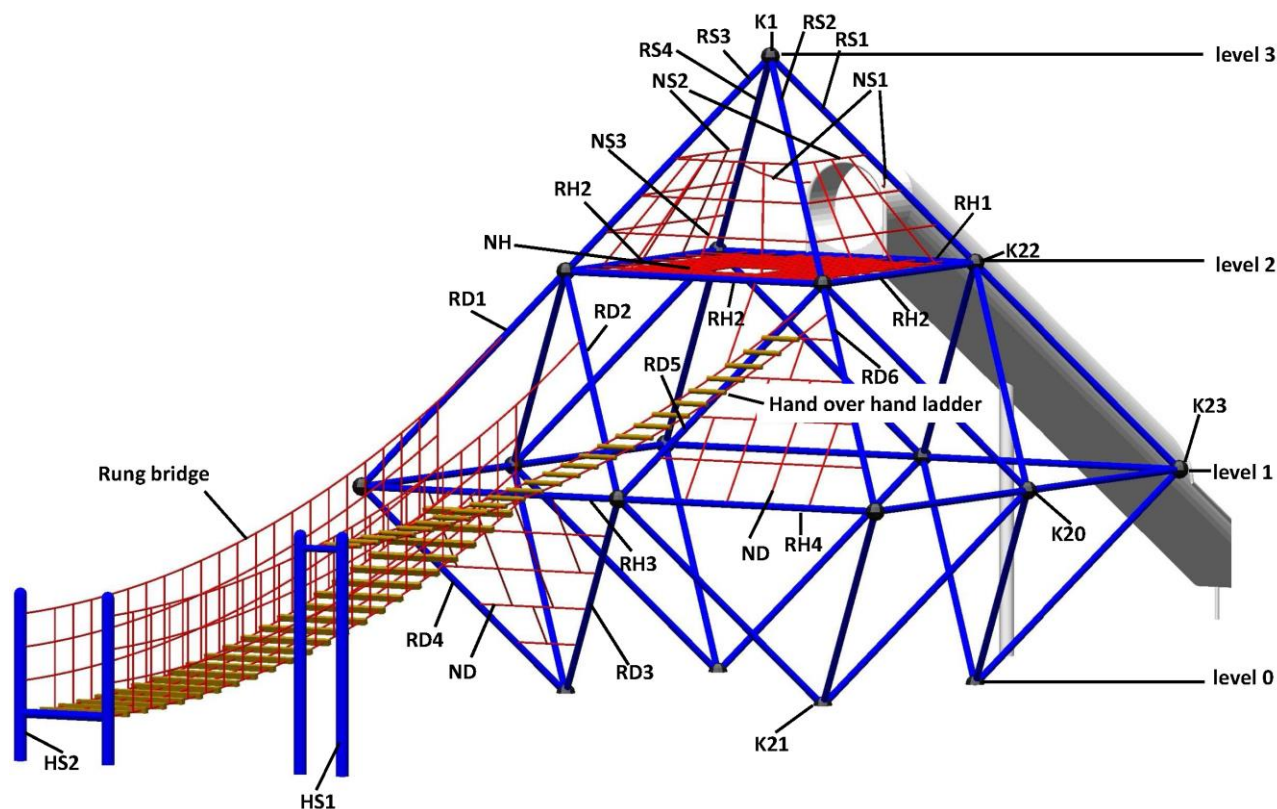
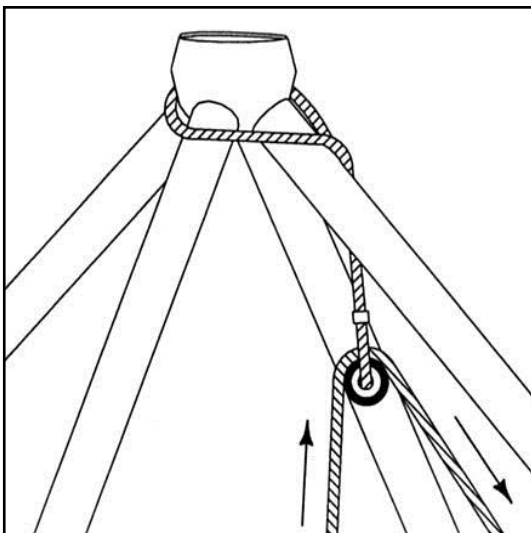
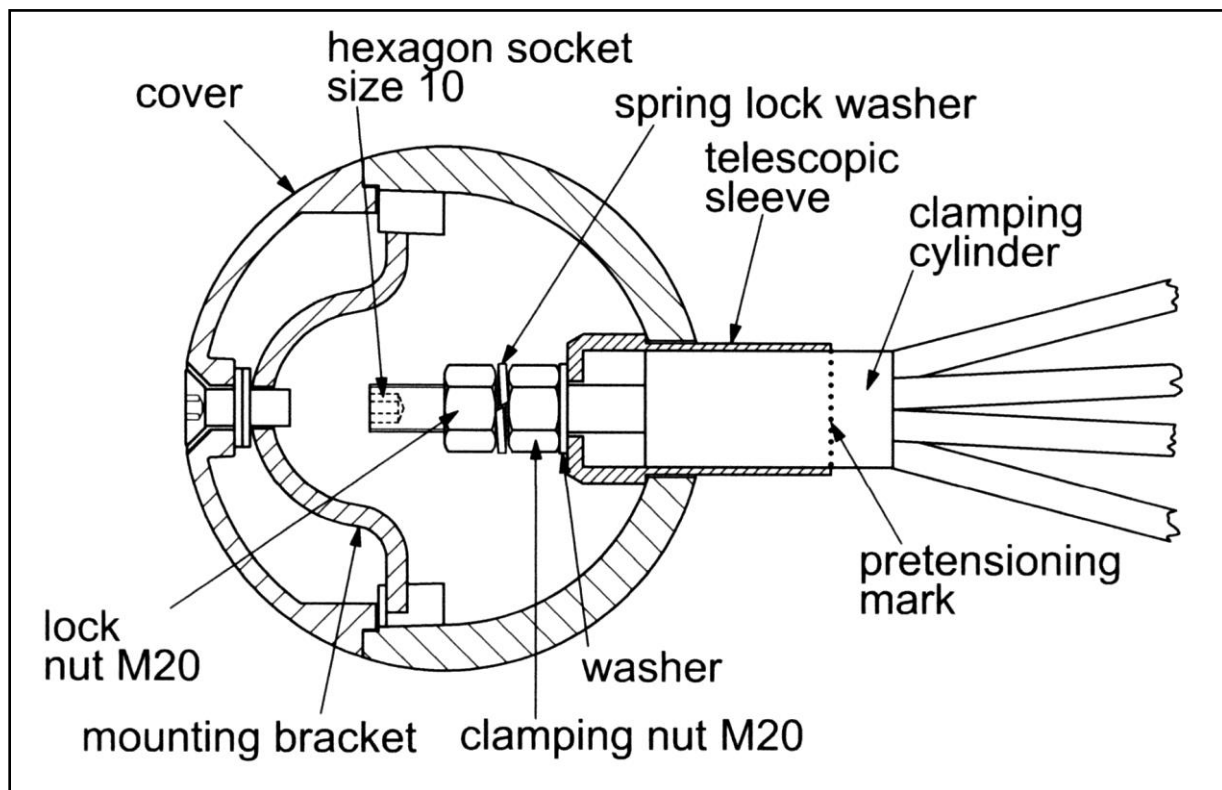

Figure 3
Figure 4
Figure 6
First of all, the foundation framework is to be taken down and the parts are to be used again. The structural arrangement of the pipes and connection joints may be seen in **figure 4**. **The code number which is stamped onto the hollow balls (K20, K21, K22 and K23) is always facing upwards.** Please ensure that tubes RS1 until RS4, RD1 until RD6 and RH1 until RH4 are positioned correctly (**Figure 3**).
The marked vertex of the net (**K1**) is to be lifted, using the rope pulley, by means of the knotted rope as per **Figure 4** and fastened onto **connection joint K1** using the clamping nut M20, SW32. The clamping systems of the four connection joint points **K22** on **level 2** then follow. Push the clamping cylinder with the bolt M20 into the telescopic sleeve (**Figure 6**) and first of all, tighten it with the clamping nuts by only five turns to make for easier insertion into the spheres.
Now connect the tension points **K20** and **K23** at **level 1** in the same way like **K22**. Push the clamping cylinder with the bolt M20 into the telescopic sleeve (**Figure 6**) and first of all, tighten it with the clamping nuts by only five turns to make for easier insertion into the spheres.
The net **begins** to be tensioned on **joint K22** on **level 2** and then takes place, via the clamping nuts, using the SW32 special socket spanner which is supplied. It must be **tensioned up to the pretensioning mark (fig. 6)**. Tension is then created on joints **K20** and **K23** on **level 1** also to the pretensioning mark. The net finally has a good **uniform strong** tension.
After the tensioning the clamping nuts at all joints in level 1 and 2 (**K20, K22** and **K23**) are to lock with the supplied locking nut M20 SW32 including the spring lock washer. **When you tightened the lock nut, you can hold up the M20 bolt with an Allen key size 10 (figure 6).**
Finally, the hollow spheres, which are still open, are to be sealed using the specially prepared sealing covers via a mounting bracket (**Figure 6**). Please fix all the covers that our logo is readable. Thank you.
As a next step, the horizontal net **NH (figure 3)** is to be installed on **level 2**. Make sure to mind the correct positioning of the entry opening, which has to be opposite to the slide connection. The screwing is done via the **ROWOCON connections (images 7 and 8)**. The screws as well as two special bits are provided.
- The first re-tensioning of the equipment must be carried out after it has been used for between 1 and 2 weeks. Re-tensioning is done using the clamping nuts M20 which are situated in the hollow spheres of the level 1 and 2 (**K20, K22 and K23**). After removing the cover, using a size 10 Allen key, the locking nut M20 SW32 is to loosen at first. The re-tensioning is carried out on clamping nut SW 32 **beyond the pretensioning mark**. All connection joints of levels 1 and 2 should be re-tensioned in a uniform fashion. After being tensioned, lock the clamping nuts with the locking nuts which you are removed beforehand (**Figure 6**). **Please note the right position of the spring lock washer between the two nuts. When you tightened the lock nut, you can hold up the M20 bolt with an Allen key size 10 (figure 6).** Now the hollow spheres are locked with the prepared ball covers via the retaining bolt in the cover. Please fix all the covers that our logo is readable. Thank you.